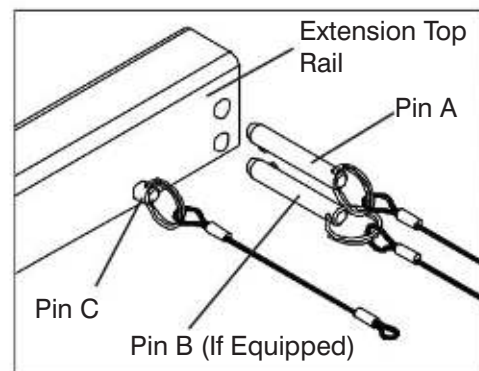

Figure 3-13b. Extension Top Rail Pins
- Remove left and right side pins A and B (if equipped). (Refer to Figure 3-13b) and pull back the extension top rail to clear front railing. Ensure pin C is installed to secure the extension handrail.